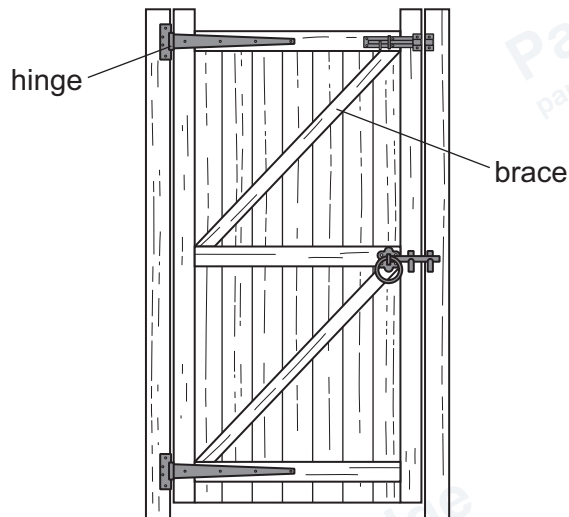

Figure 9.1
- 9 Figure 9.1 shows a gate made of softwood.